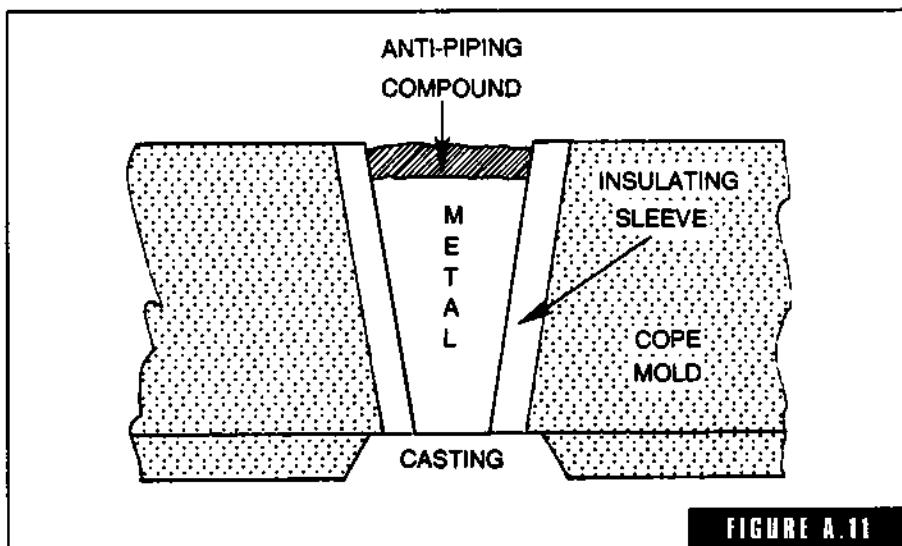

FIGURE A.11
**anti-piping compounds** Carbonous (slow oxidizing) compounds which are sprinkled on the top of the riser to slow down the heat loss, keeping the riser liquid longer so that it can do its job (Fig. A-11). Some are mildly exothermic or quite volatile like the old hot patch. *Insulating sleeves* of plaster of paris, or other insulating materials are sold by foundry suppliers in a wide variety of sizes and materials. Some are simply insulators, others are exothermic. Exothermic anti-piping compound materials are composed chiefly of what is known as *thermit*, but modified to react less violently. Thermit is basically a mixture of powdered aluminum and iron oxide.